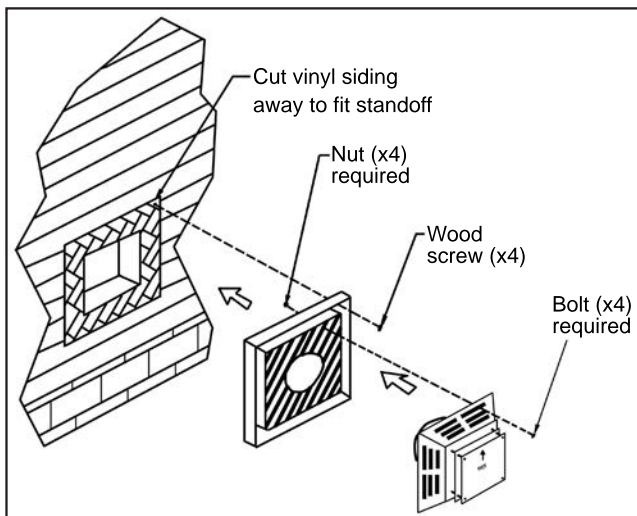

Figure 26: Installing Vent Cap with Vinyl Siding Stand-Off.
- The four (4) wood screws provided should be replaced with the appropriate fasteners for stucco, brick, concrete, or other types of siding.
- For buildings with vinyl siding, a vinyl siding standoff, should be installed between the vent cap and the exterior wall (see Figure 26). Attach the vinyl siding standoff to the horizontal termination. The vinyl siding standoff prevents excessive heat from possibly melting the vinyl siding material. Note that the horizontal vent termination bolts onto the flat portion of the vinyl siding standoff (shaded area in Figure 26), so that an air space will exist between the wall and the vent termination.